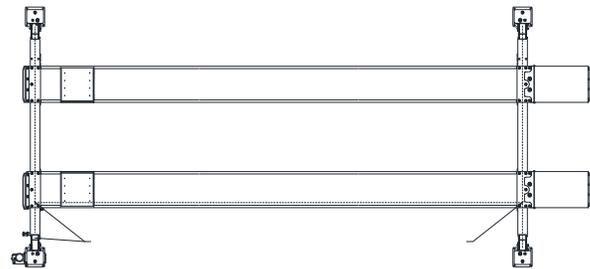
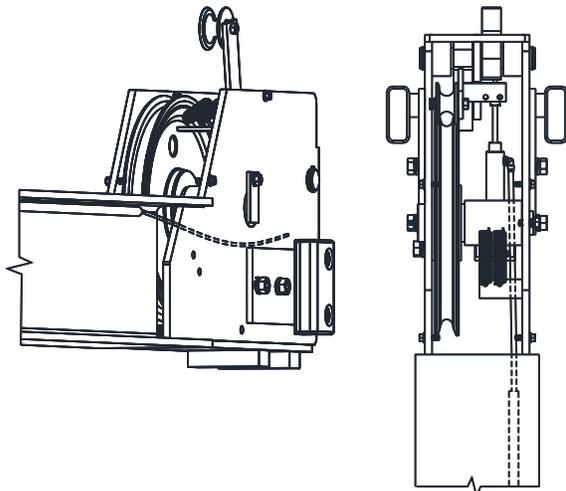

Fig 11 – Lock Release Air Line Routing
Fig 12 – 5/32 Air Line Connection
- 29) Install 5/32" air line from air valve assembly thru opening in runway to Tee. **Fig 11 & Fig 12**
- 30) Route power side front and rear cross beam air lines through power runway (See Figure G) to Tee with 5/32" airline provided. Use welded rings inside the power runway to secure air lines. Insert 5/32" air line through the tubing in front of the crossbeams **Fig 12**